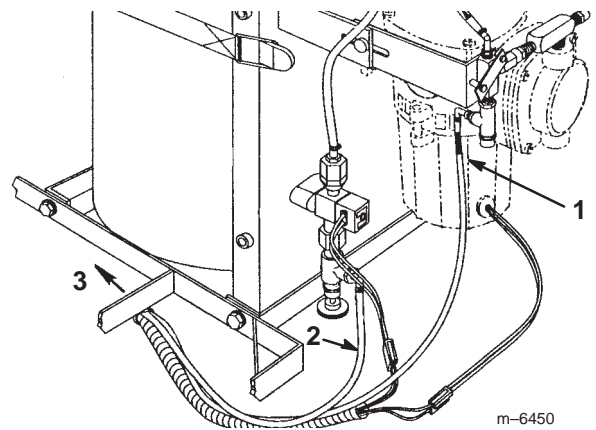

Figure 15
13. Mark a 108 in. supply hose with a black marker at each end (Fig. 15).
14. Connect the marked supply hose to the hose barb at the compressor and the other supply hose to the hose barb on the needle valve (Fig. 15).
15. Secure the hose ends with small hose clamps (Fig. 15).